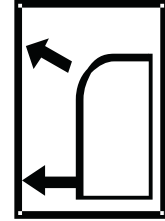

Fig. 23 — Dual Air Flow
2. Make the airflow selection that best suits you. When setting the air flow selection, use the **Dual Air Flow** icon (see Fig. 23).